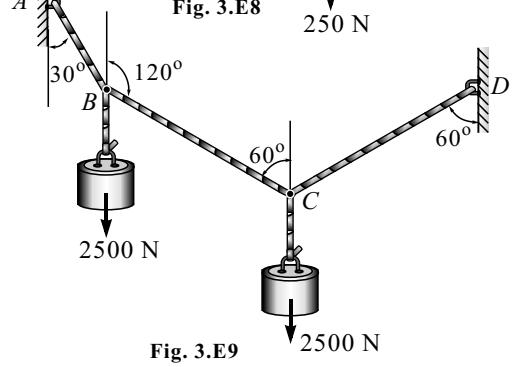

Fig. 3.E9
10. Two cables are tied together at *C* and loaded as shown in Fig. 3.E10. Determine the tensions in *AC* and *BC*.